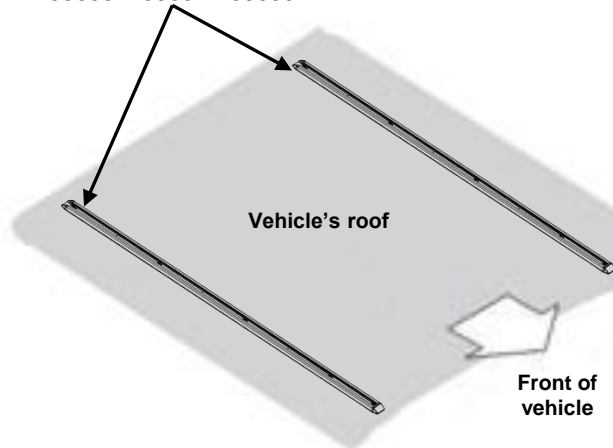

Fig. 1
Step 1: Determine if you have a Direct or Track mounting roof rack system. These systems must be installed prior to installing the cross bar kits. If it's a Track Mounting System (part numbers 59853, 59854, & 59855) follow steps 2 and 3. (Fig. 1) If it's a Direct Mounting System (part numbers 59753 & 59754) follow steps 4 and 5 (Fig. 2)